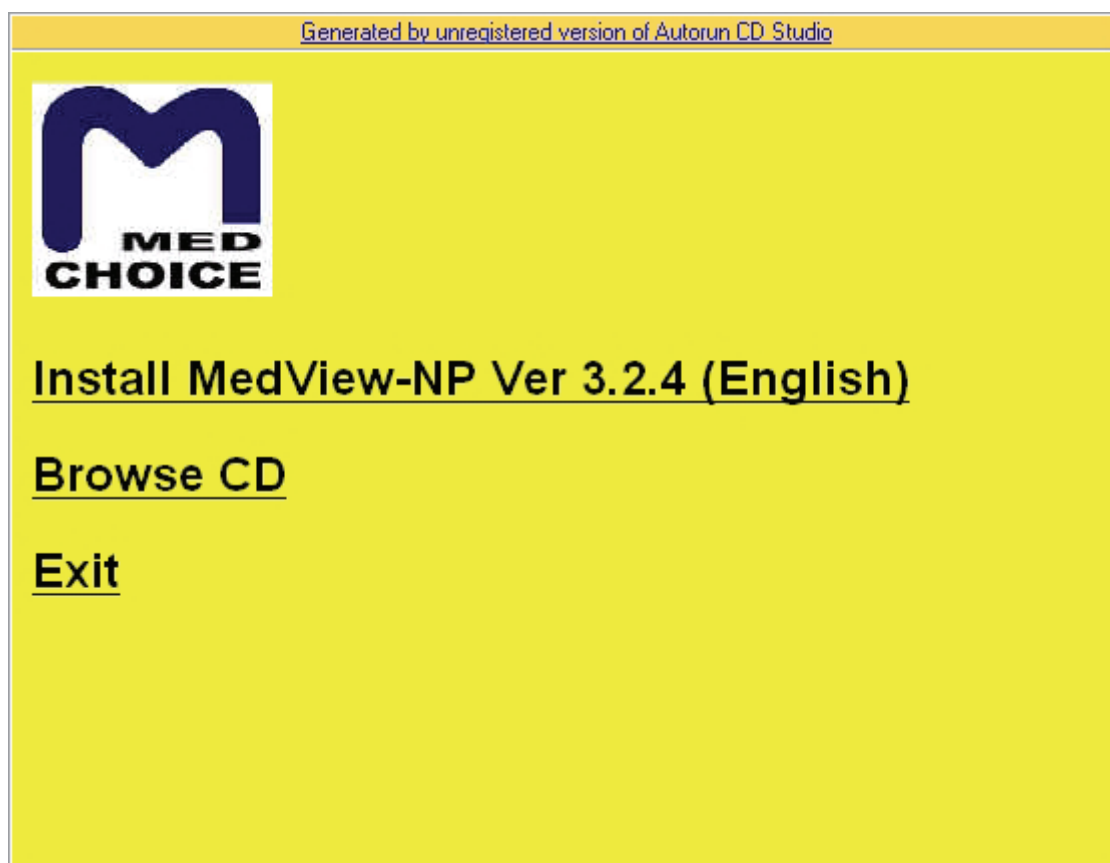
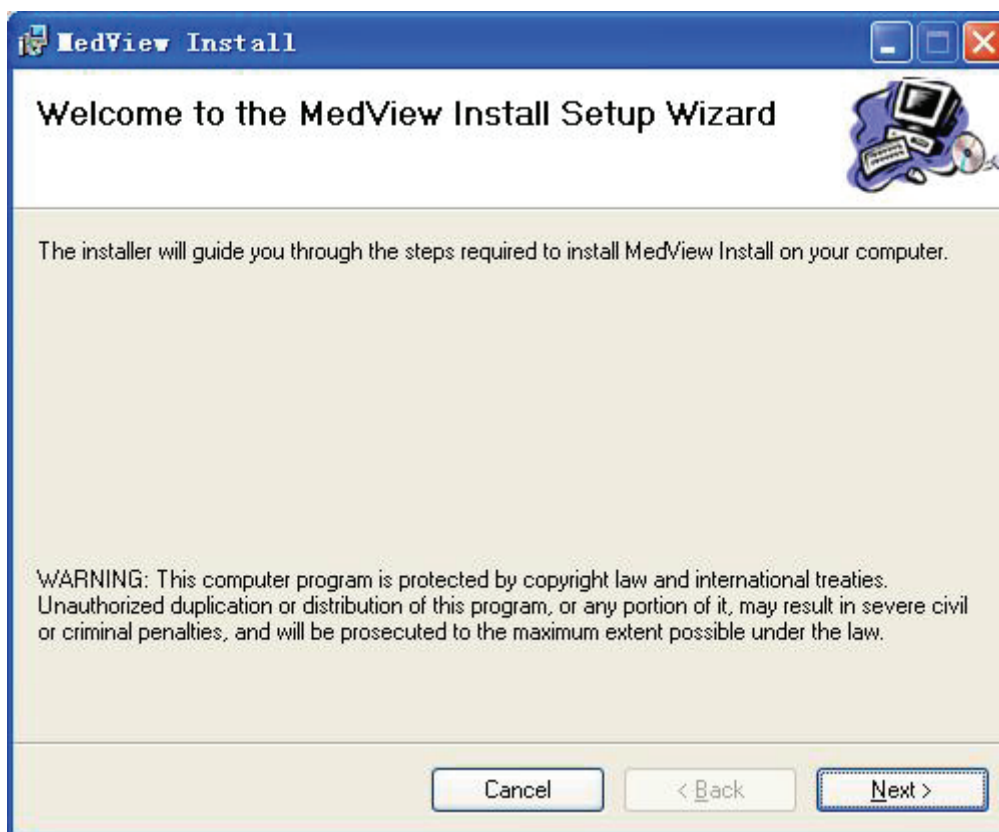
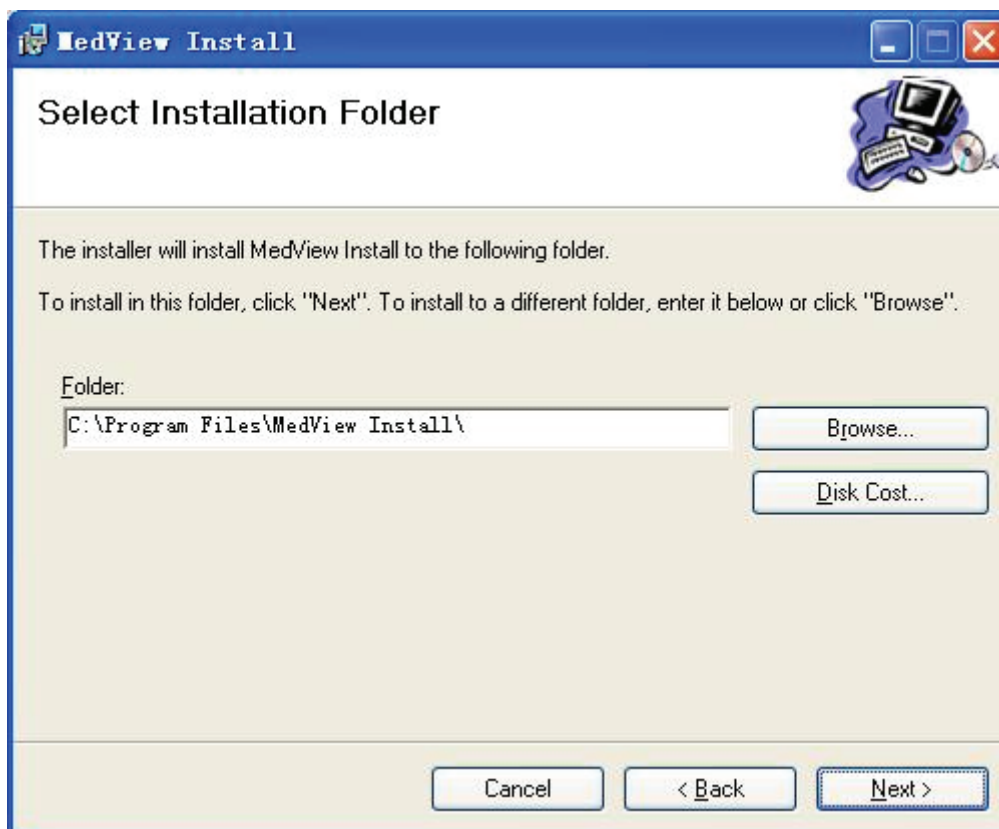
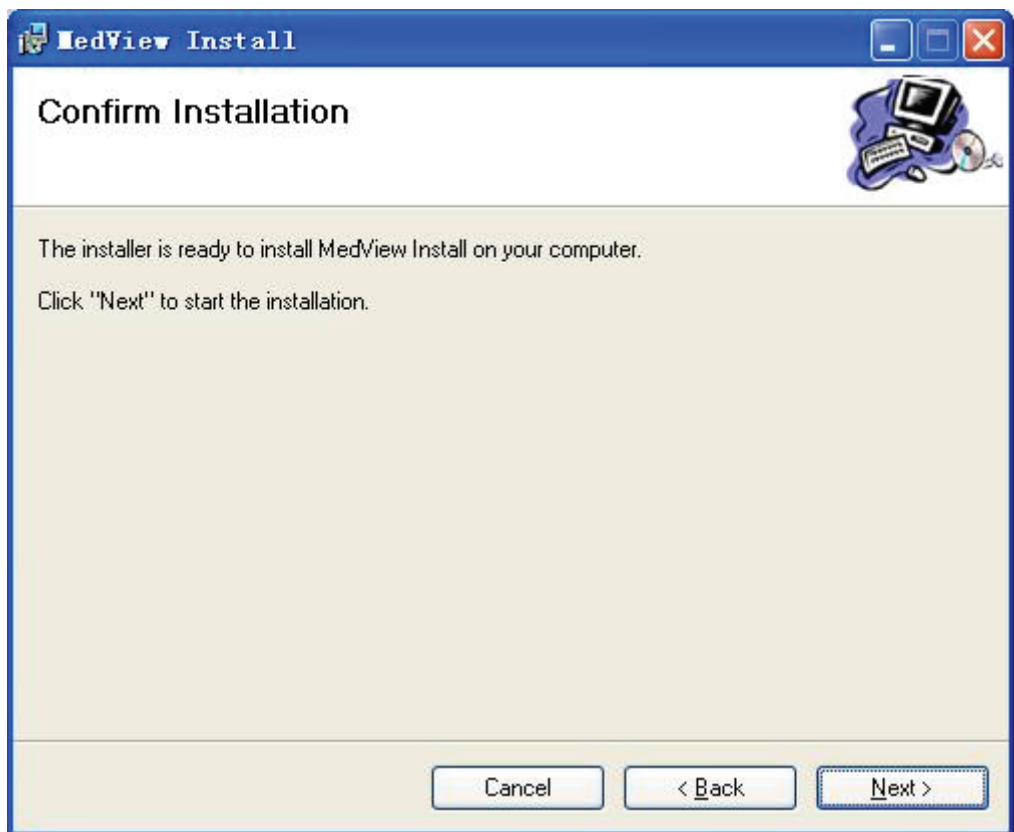

Figure 2-1
Figure 2-2
Figure 2-3
Figure 2-4
2.1 Put the attached installation CD into computer's CD driver, the CD will run automatically and then the following interface will appear, as shown in Figure 2-1.
(1) Click “Install MedView-NP Ver 3.2.5(English)” in Figure.2-1 to begin the installshield wizard of MedView-NP Software. Then Figure 2-2 will appear.
(2) Click “Next” button in Figure 2-2, then Figure 2-3 will appear.
(3) Click “Next” button in Figure 2-3, the Figure 2-4 will appear and the installation files are saved in “C:\Program Files\MedView Install”. Also, users can click “Browse” button to choose the path for saving the installation files.
(4) Click “Next” in figure 2-4, the software is being installed..